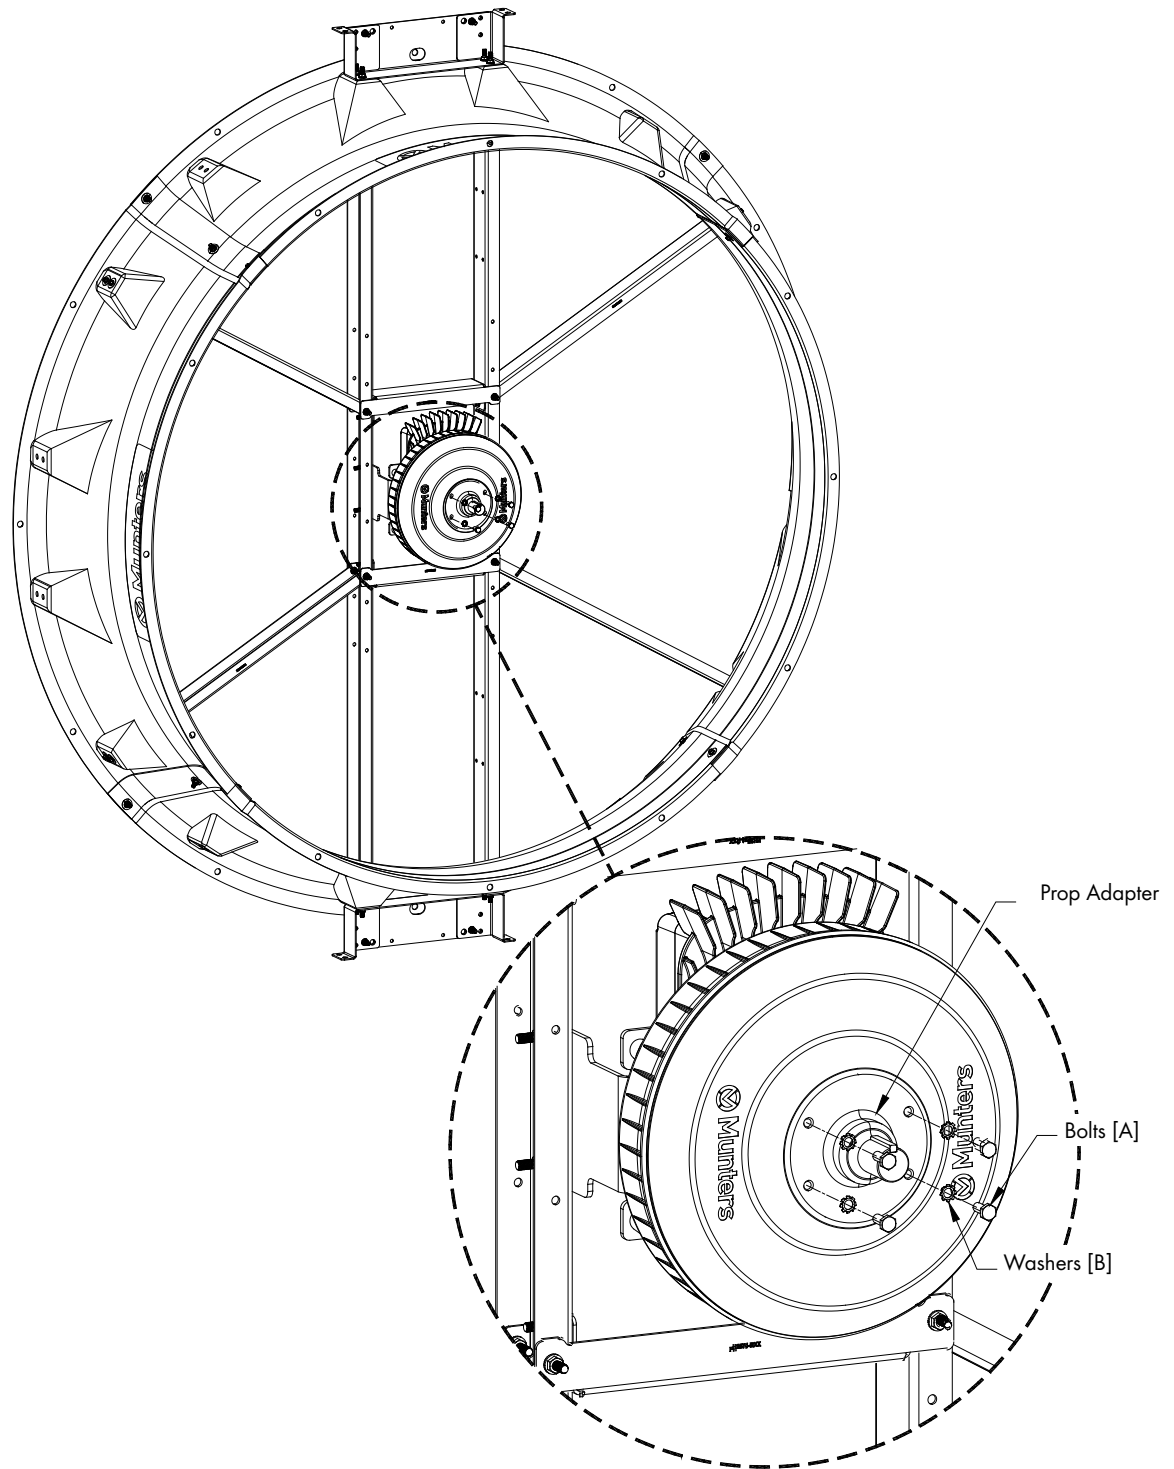

Figure 19
Attach the Prop Adapter removed in Step 16 to new Motor/Drive using (4) new Bolts [A] and Star Washers [B]. Tighten Bolts to 60 in-lbs. [6.8 Nm] of torque. See Figure 19.